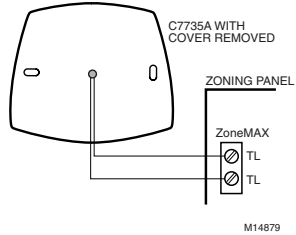

Fig. 3. DATS wiring to TZ-3 panel.
6. Connect the two DATS wires, using the wire nuts supplied, to wires that connect to the TL and TL terminals on the TZ-3, MABS EZ-2, MABS EZ-4 or to the ZMS and ZMS terminals on the EMM series panels, through the wiring hole in the DATS case. See Fig. 3.